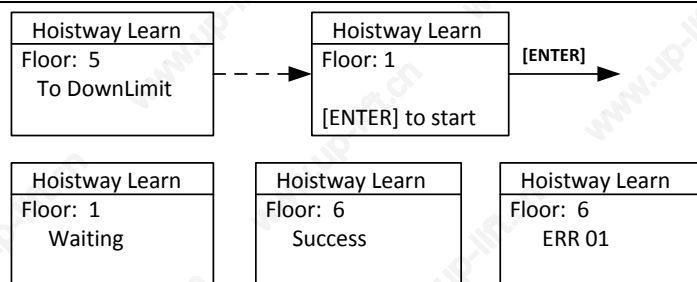

FIGURE 7.5 HOISTWAY PARAMETER SELF-LEARNING PROCEDURES
4. Enter elevator hoistway self-learning menu through digital operator, follow the learning procedures shown below in Figure 7.5.